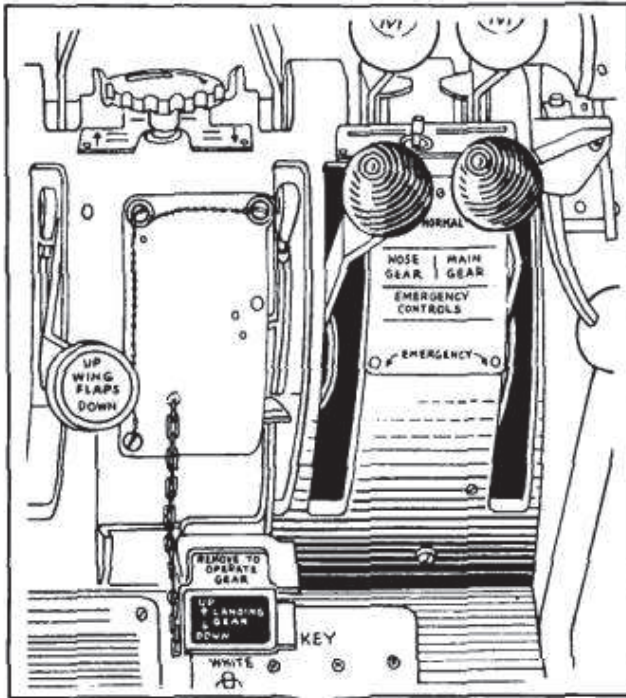

Figure 41—Landing Gear Lever
- (12) Check to see that landing gear lever is "DOWN" with safety lock installed. (See figure 41.)
(13) Check to see that emergency landing gear levers are in "NORMAL" position. (See figure 41.)